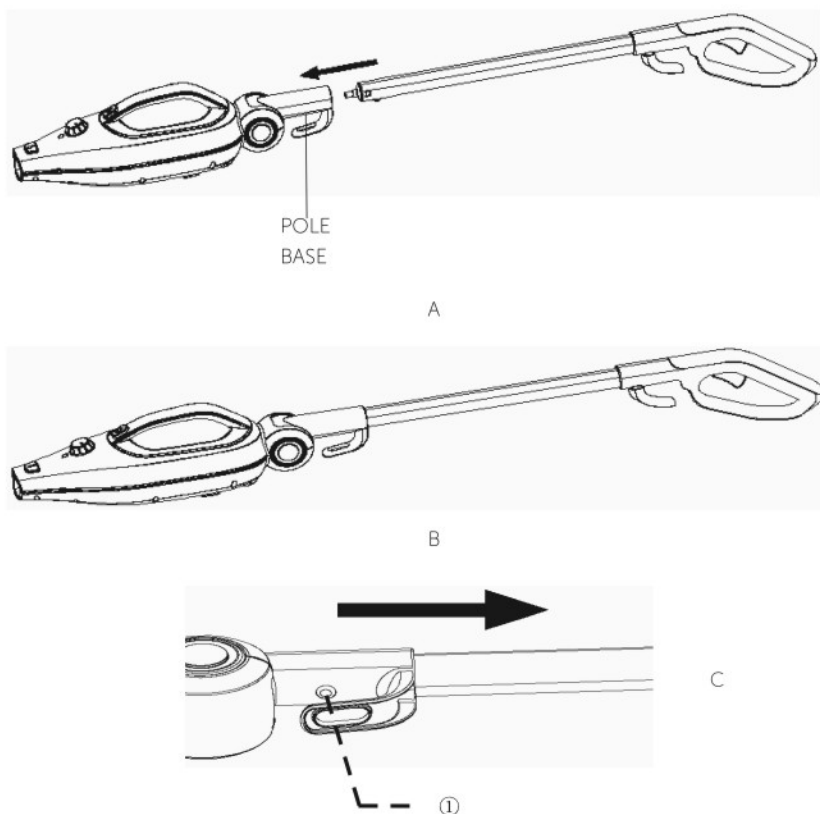

FIGURE 1
Insert threaded connector on bottom of Extension Pole base on main unit (FIGURE 1-A).
1. Insert the metal tube into the main body, it assembled well once you hear "click"(FIGURE 1-B)
- 1) press the switch button ①, to make sure the metal tube was equipped tightly
- 2) push it out (FIGURE 1-C)